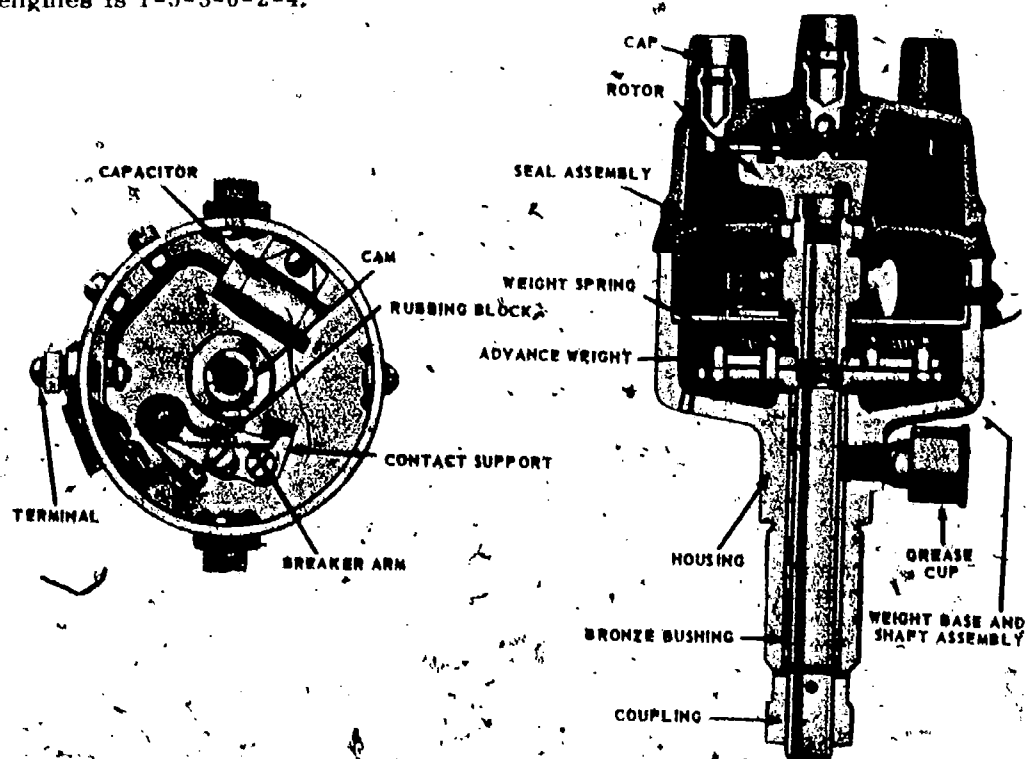

Fig 2-23. Sectional view of a standard-type distributor.
a. Distributor (fig 2-23). The heart of the battery ignition system is the distributor. It functions in both circuits, making and breaking the low-voltage circuit and distributing high voltage to the right cylinder at the right time.
2. **Contact points.** The contact points used in conjunction with the cam lobes to form the make-and-break device consist of a fixed and a movable point. A spring-loaded breaker arm with a rubbing block which rides on the breaker cam forms the movable contact surface. The fixed adjustable contact point surface is the contact support. The 2-piece points come as a set and are always replaced as a set. Notice the two screws in the contact support in figure 2-23, the one on the right is the locking screw and the one on the left (with elongated hole) is the adjusting screw.
1. Centrifugal advance (fig 2-23). The centrifugal-advance mechanism is operated by a pair of weights that are thrown out against spring pressure as the engine speed increases. The movement of the weights advances the spark through a linkage to the breaker cam. As speed increases, the spark is advanced. As speed decreases, the spark is retarded.